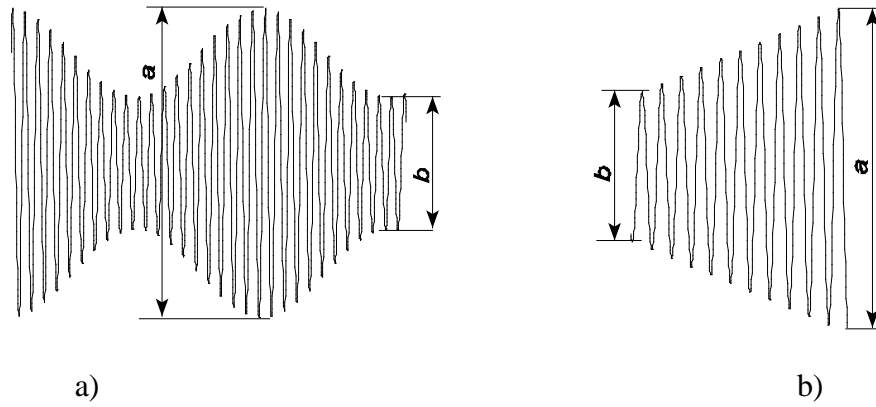

Fig. 10
- the direct method – the time base is adjusted until you get an image similar to figure 10.a.
- the trapeze method – the XY mode is use, while on the Y channel is applied the modulated signal and the modulator signal on the input X. The image in figure 10.b it is obtaine don the screen.